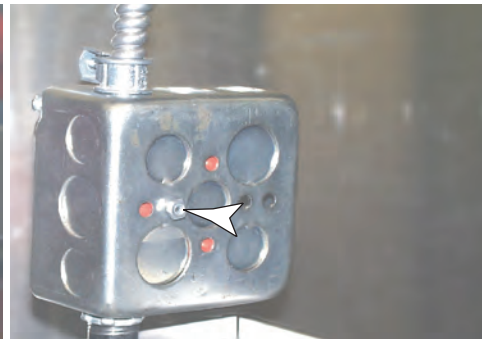

Fig.6
6. Secure the Round Head Slotted Screw (item 20) to the Delay Timer (item 18) using (1) #8-32 Hex Nut (item 12), then secure the Delay Timer to the Outlet Box as shown (Fig.6) using Lock Washer (item 11) and (1) #8-32 Hex Nut.